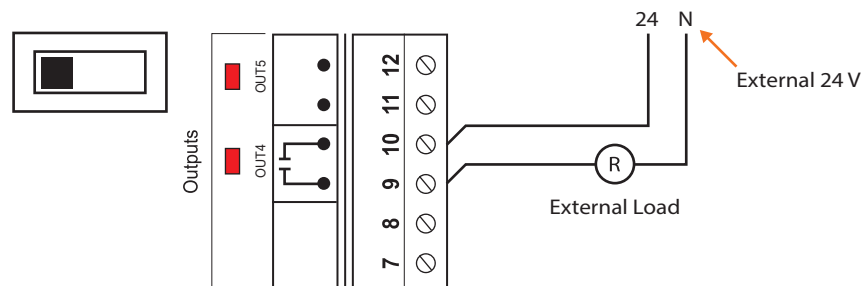

Figure 14 - Connection of passive outputs 3 and 4
2) Passive output (SINK). The C1000 opens and closes a contact to allow an external source to power the load (see Figure 14).